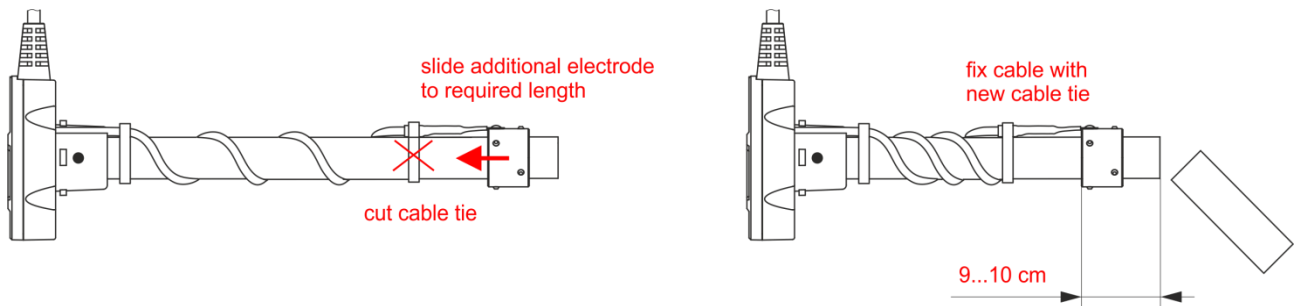

Figure 10 — Measuring tube cutting procedure for DUT-E 2Bio
**IMPORTANT:** When cutting DUT-E 2Bio, to ensure proper operation of automatic fuel correction function it is necessary to leave a distance of **9...10 cm** from upper part of third electrode to the cut of measuring tubes (see figure 10).